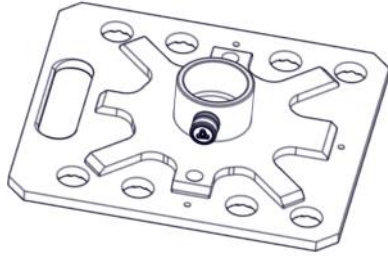

Figure 1-14. Rigid Base 12
k. **Rigid Base 12.** The Rigid Base 12 (Figure 1-14) is similar to Rigid Strut Base 6 except with a 12" base plate with 8 holes to accept 1" (2.5cm) pickets.